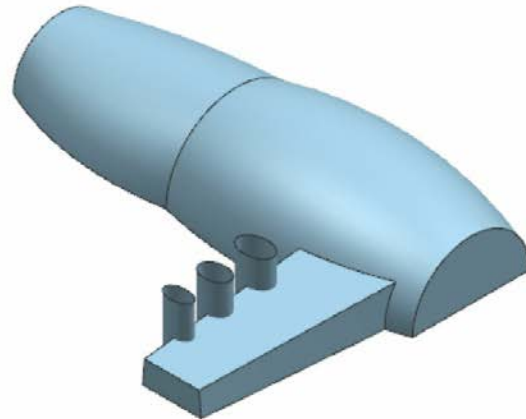

Figure 11-104 Resultant extruded surface
3. Extrude the sketch up to a depth of 25 mm. The extruded surface is displayed, as shown in Figure 11-104.